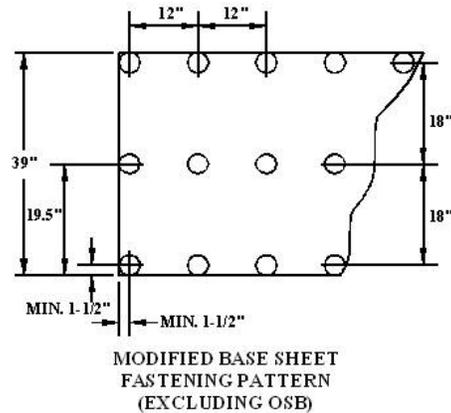

Figure 7
- a) When no insulation is specified and FleeceBACK AFX or FleeceBACK KEE HP Membranes is to be directly mopped to a Carlisle Modified Base Sheet. The base sheet must be fastened with Carlisle HP or HP-X Fasteners with 3" diameter insulation plates are used to attach the Carlisle Modified Base Sheet in rows 18" apart, 12" on center, refer to the fastening pattern in figure 7.